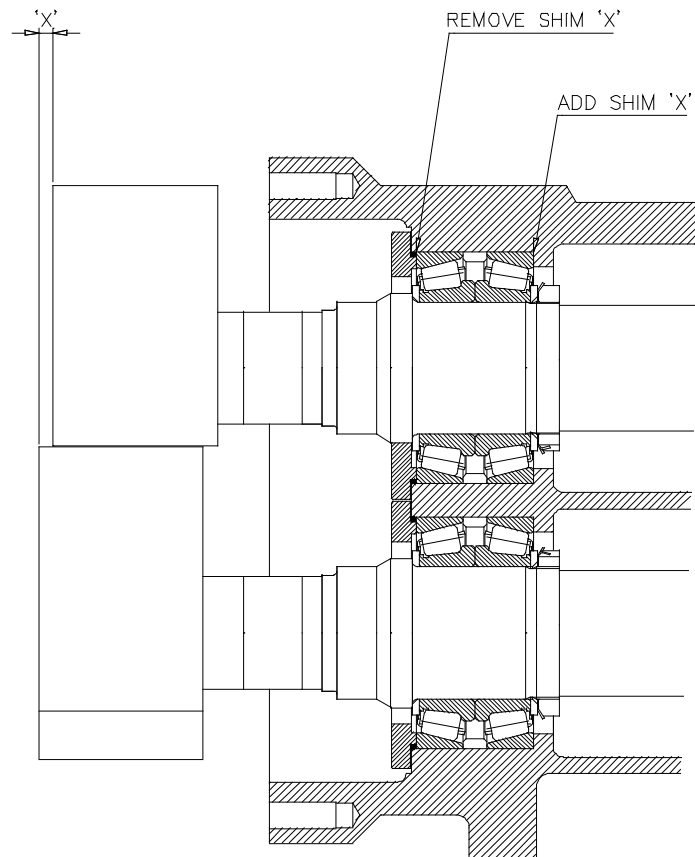

Fig 35 Rotor face alignment.
- Using a depth micrometer or similar device measure any difference (X) in rotor front face alignment, see Fig 35. If a difference is found move shims (5.04) of thickness equal to the difference (X) from beneath the lower rotors bearing retainer (5.06) and reposition under the front bearing (5.05) cup.